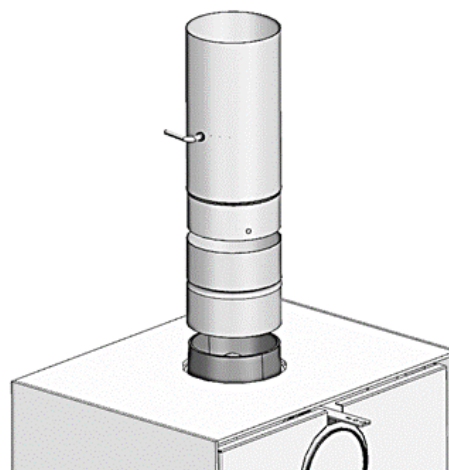

Fig. 9.– Sample of a draft regulator installation
- If you also have a draft control, place the valve open (optional – Fig. 9).